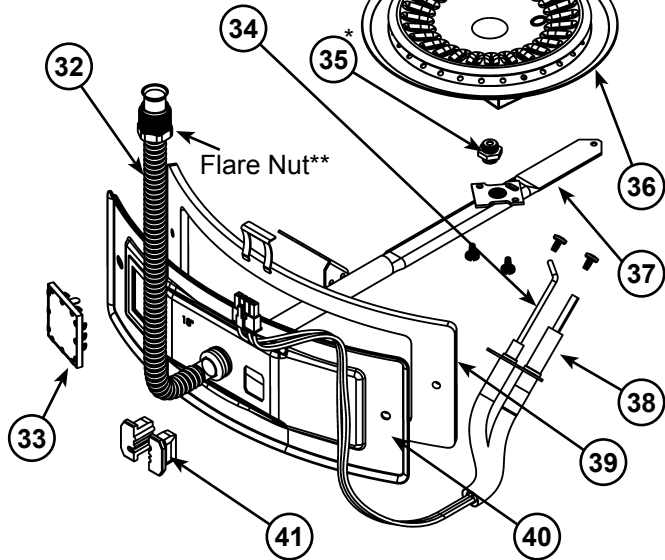

Figure 46
14. Manifold Door Assembly (behind outer door) (see Figures 46 & 47)
32. Flexible Manifold Tube (see Figures 46 & 47)
33. Viewport (see Figures 46 & 47)
34. Flame Sensor Rod (see Figures 46 & 47)
35. Gas Orifice (see Figures 46 & 47)
36. Sheet Metal Burner (see Figures 46 & 47)
37. Gas Manifold (see Figures 46 & 47)
38. Hot-Surface Igniter (see Figures 46 & 47)
39. Manifold Door Gasket (see Figures 46 & 47)
40. Manifold Door (see Figures 46 & 47)
41. Two Piece Grommet With Clip (see Figures 46 & 47)